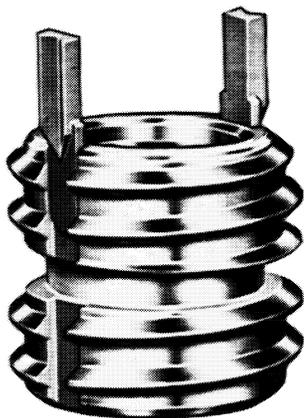

Figure 21.—Keensert.
**Solid bushing.**—Solid bushing inserts have conventional threads both internally and externally. A popular type is the Keensert11 shown in figure 21. The locking keys are driven in after the insert is in place. Another manufacturer uses a two-prong ring for locking. These inserts are also available with distorted external thread or Nylok plugs for locking.